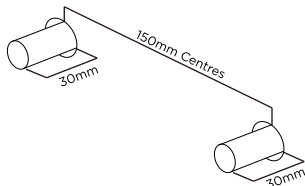

Fig.1
4. Terminate the pipework in the wall ensuring that there is at least 30mm of 15mm diameter pipework protruding from the finished wall surface (See Fig.1).